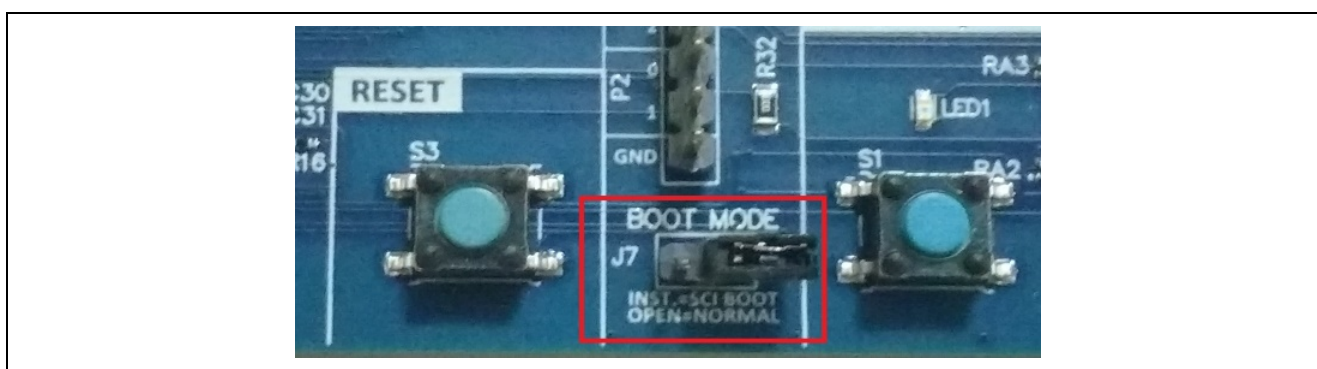

Figure 2. Boot mode configuration
2. Verify that J7 (BOOT MODE) is not installed across the pins (Figure 2).